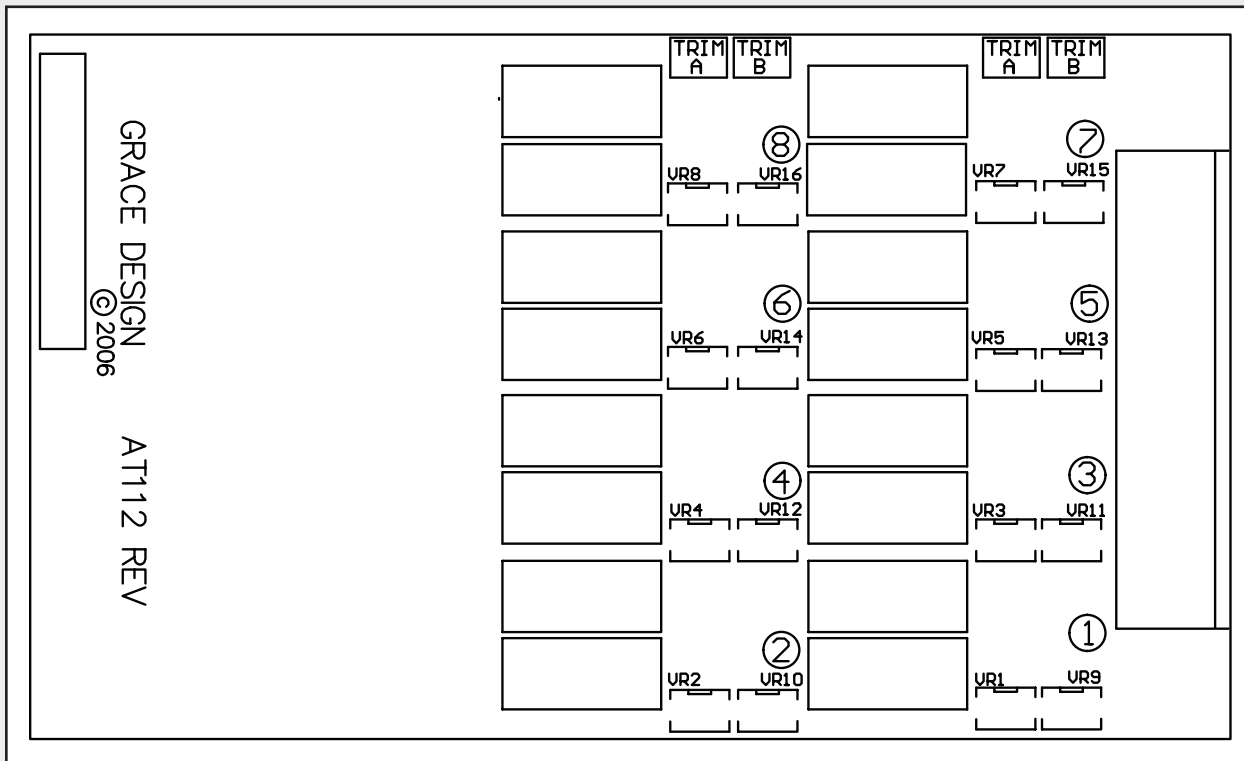

figure 7 / A/D trim locations
4. *Using a non conductive tweaker tool, adjust the trim control corresponding to the current channel and sensitivity range (A) or (B). Each channel is labeled on the A/D converter analog input card (see figure 7 below). Trim (A) and trim (B) are also labeled. While adjusting the trim control, monitor the digital output on your recording device. Turn the trim until the digital level matches the desired headroom level. That is the level you will be adjusting to will be the desired headroom in decibels below full scale. For example if you have selected +20dBu = 0dBFS (16dB Headroom) for sensitivity (A), turn the trim (A) potentiometer until your digital meters read -16dBFS. If you have selected +24dBu = 0dBFS (20dB Headroom) for sensitivity (B), turn the trim (B) potentiometer until your digital meters read -20dBFS.*